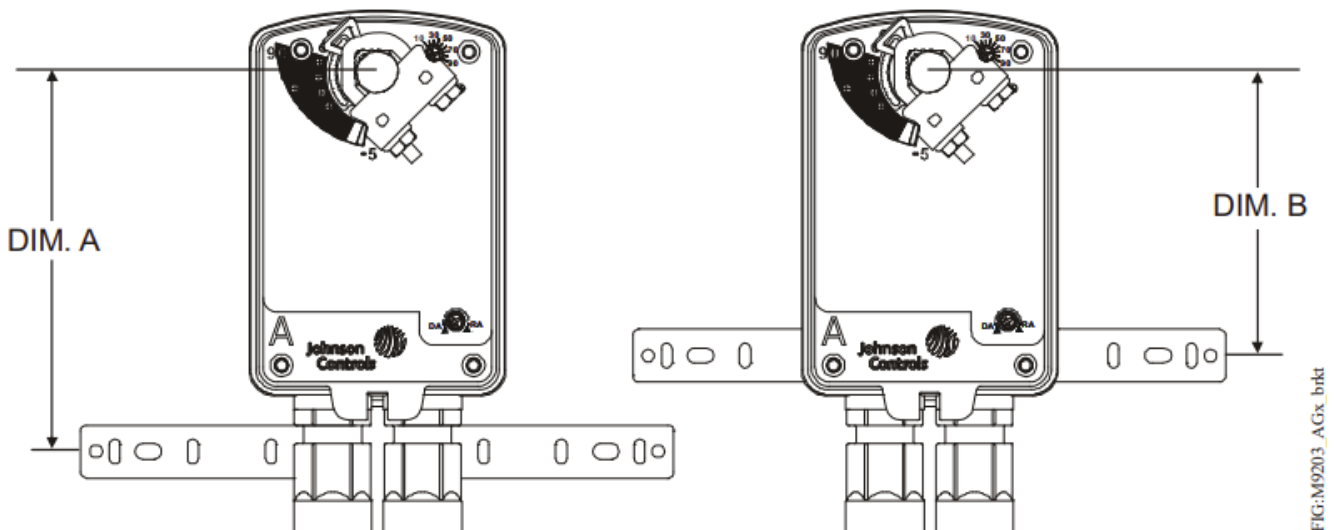

Figure 5: Positioning the Anti-Rotation Bracket
1. See the dimensions in **Figure 5** and Table 2 to ensure the correct positioning of the anti-rotation bracket.
3. Mark or drill mounting holes in the damper frame or duct using the anti-rotation bracket as a guide (based on the measurements obtained in Table 2 and **Figure 5**).